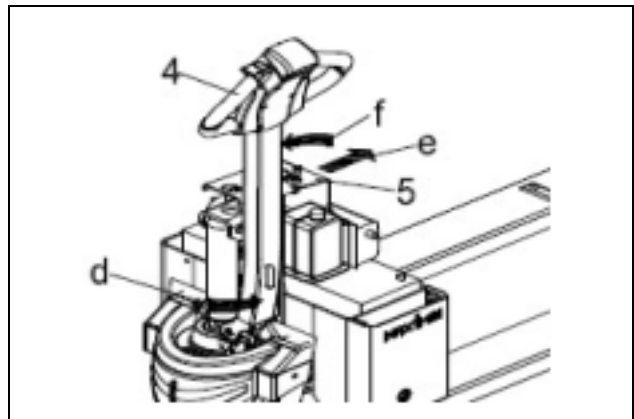

Figure 3-5 Reposition Electrical Panel
- d. Rotate control arm to the extreme position as shown in Figure 3-5.
- e. Pull electrical panel (5, Figure 3-5) a little out.
- f. Turn the electrical panel to the direction as shown in Figure 3-5 until it is clear of the batteries.